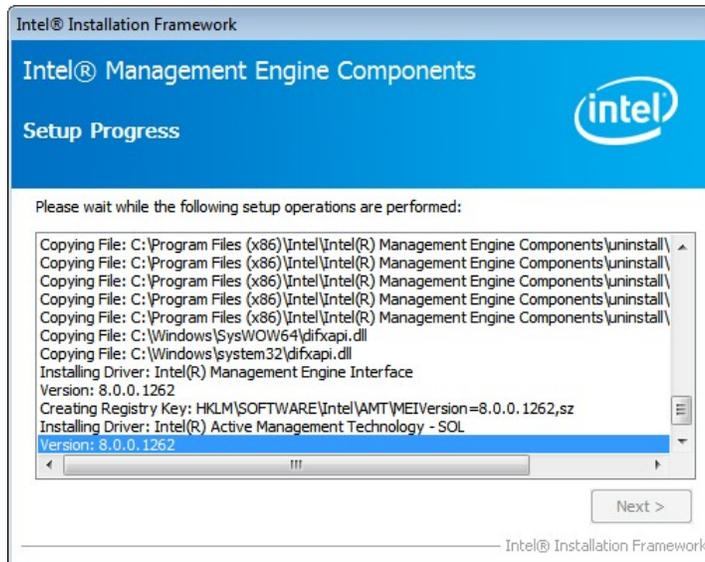

Figure 6-29: Intel® ME Driver Setup Operations
Step 10: Setup Operations are performed as shown in Figure 6-29.